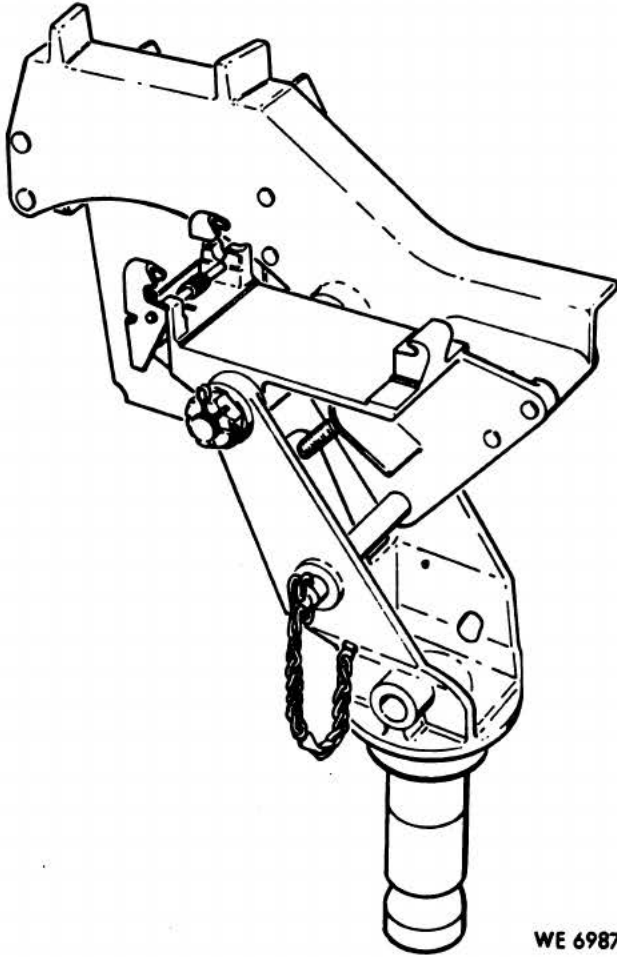

Figure 1-1. Mount, machine gun—11589656—right front view.
*a. Machine Gun Mounts.* Machine gun mounts (figs 1-1 through 1-7) are component assemblies upon which a machine gun is directly mounted. They are composed of a cradle, pintle, ammunition box tray, securing pins or latches, and a travel lock pin. The purpose of a machine gun mount is to hold a machine gun and ammunition, and provides the capability to elevate, depress, and traverse the machine gun. Machine gun mounts are to be installed into a pintle socket of a post, pedestal, ring or cupola mount, located on the vehicle.
machine gun mount, pintle socket, pintle clamping screw, ring assembly and brake assembly. Some models contain a backrest assembly. Ring mounts generally are installed to vehicles by supports or legs attached to the vehicle; however, some ring mounts are attached directly to the vehicle. Mount, gun, ring 1005-774-6836 is not illustrated in this manual, however it is composed of a M49A1 type ring assembly (fig 1-16) and a machine gun mount for the 7.62-MM, M60 Machine Gun (fig. 1-1) and has supports, front and rear, for attaching to the M548 Carrier the same as the Caliber .50 Mount illustrated in figure 1-21.